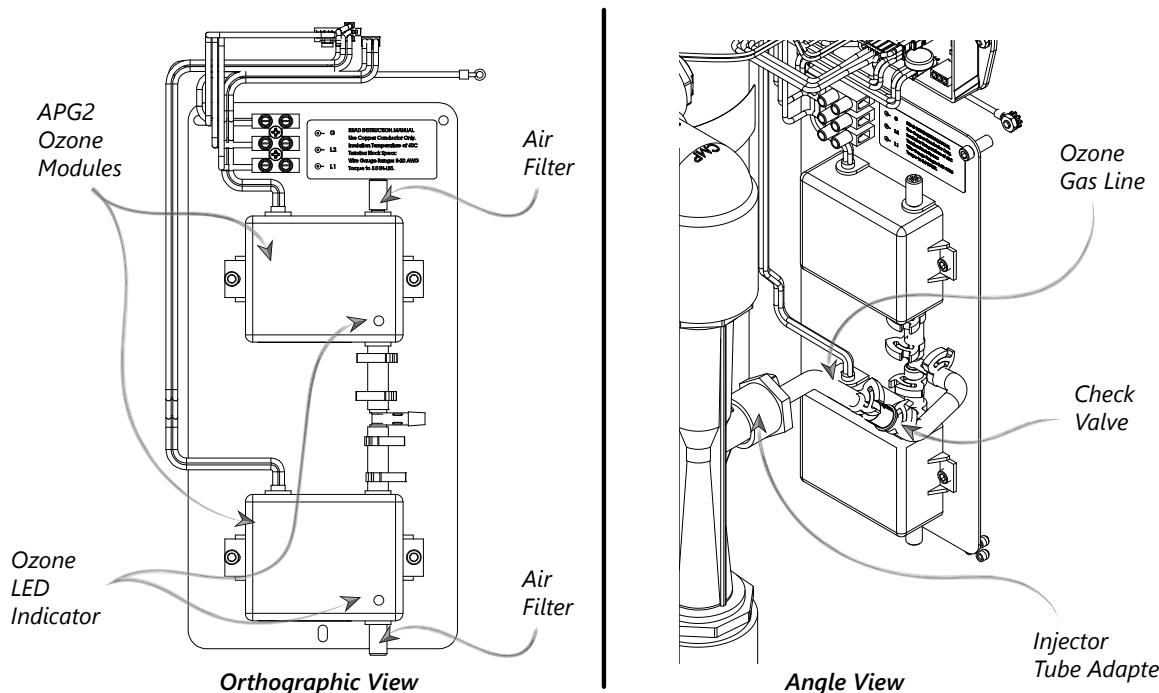

Figure 11: Ozone Generator System Overview
The air entering the ozone modules passes through the air filter (refer to Figure 11) on each module inlet. The filter is held in place by the rubber filter cap.
3. Orient ozone gas line as shown in Figure 11. Re-connect it on both ends and clamp tight.
3. Install new ozone air filter (P/N 9-0858-01) on ozone generator air barb as shown in Figure 11.